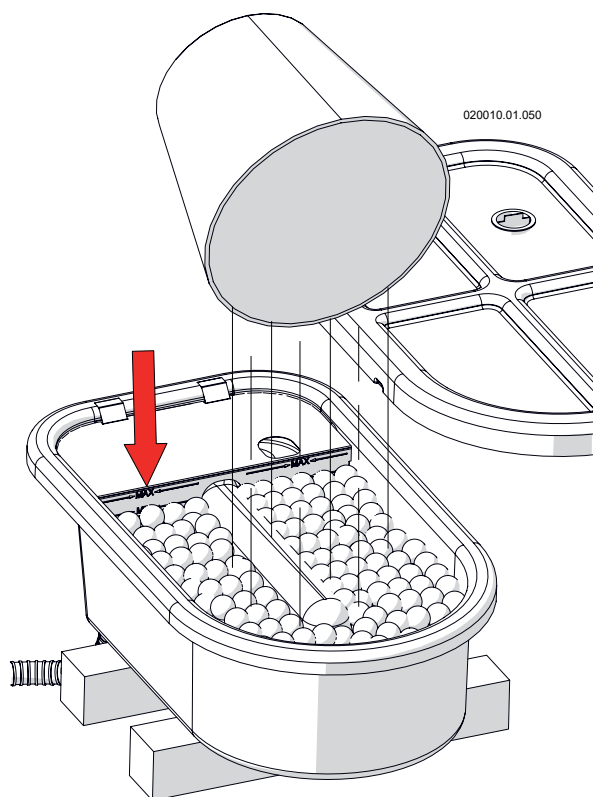

Figure 14-2 - Filling water in the condensate outlet siphon
- 1.- Once the neutralizer media is placed fill the box with water until the max level indicated in Figure 14-2, make attention to placing the box on two axes to keep it level horizontally;